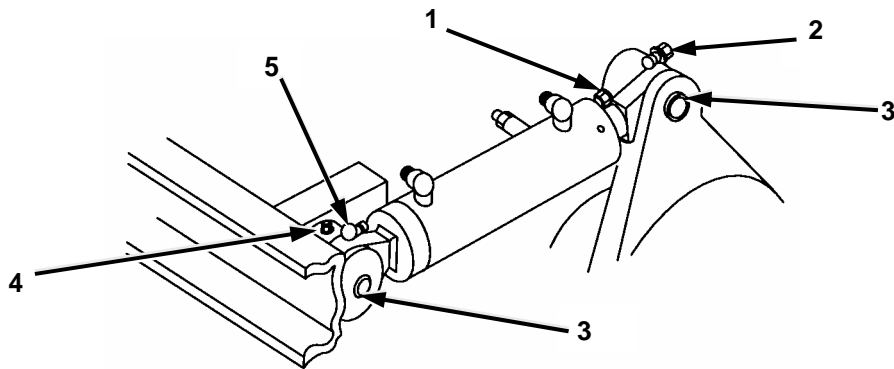

Figure 2-29. Hydraulic Track Adjusting Cylinder (4 of 4).
- g. Tighten locknuts (Figure 2-29, 1 and 4) to 19 to 31 lb-ft (39 to 42 N•m).